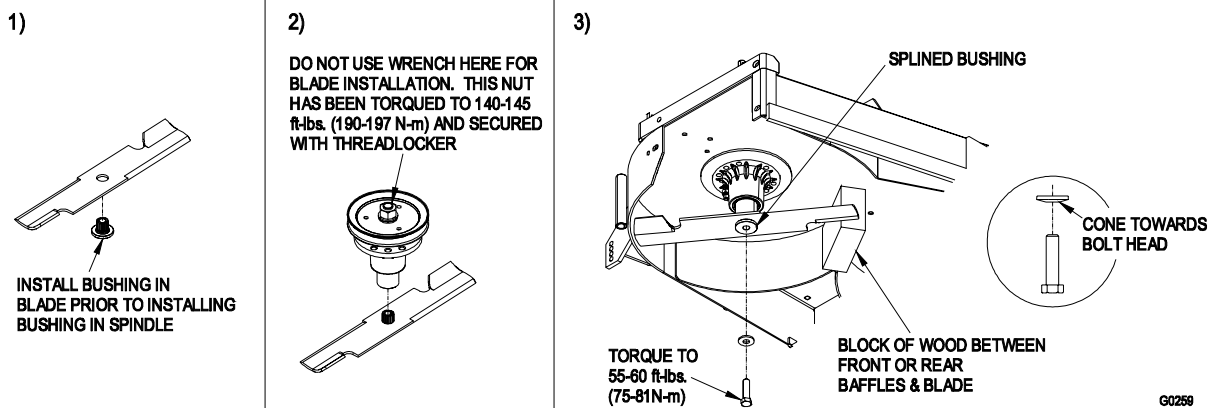

FIGURE 8
- d) Re-install the blades (if they were removed) in the following order (See Figure 8):